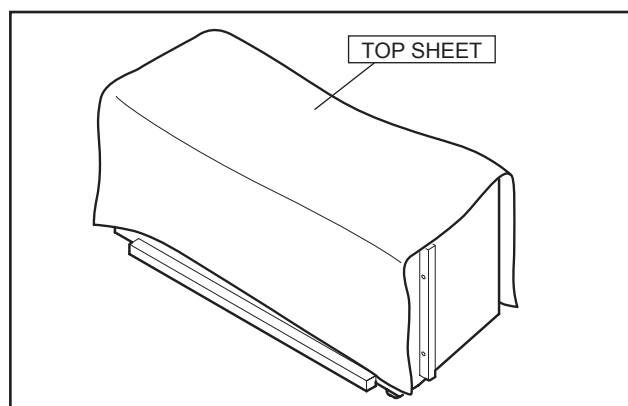

Fig.4
- (10) Cover the lower unit with the Top Sheet in order not to insert dust in the lower unit. Top Sheet is the one used for package. [Fig.4]